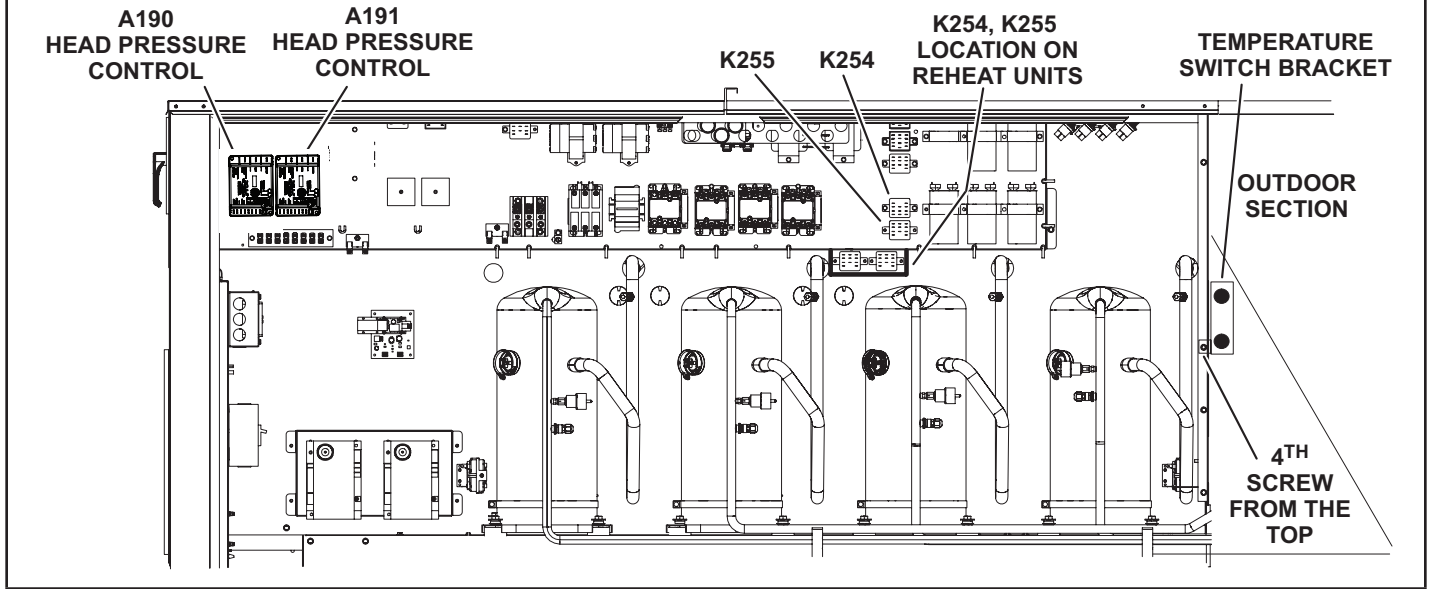

FIGURE 1
- 2 - Install head pressure controls (A190 & A191) in the control section as shown in figure 1. Secure with screws (provided).
- 3 - Install the temperature switch mounting bracket onto the mullion. Align the bracket with the 4th screw from the top of the unit; secure with provided screw. See figure 1.
Note - K254 and K255 relay location is different for reheat units as shown in figure 1.